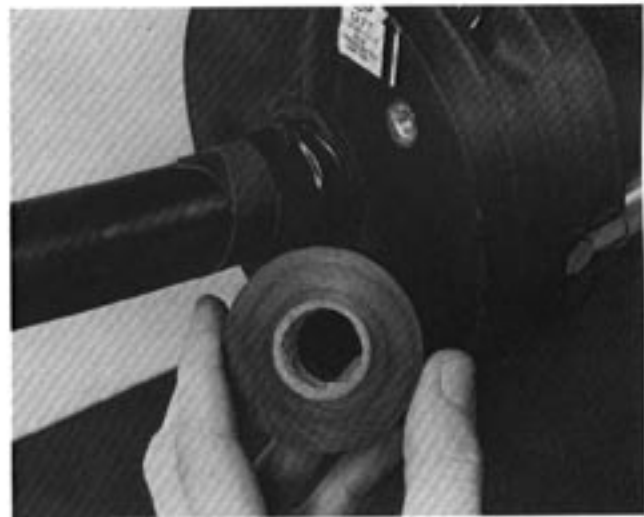

FIGURE 26 - APPLICATION OF VINYL TAPE TO CABLE
8.09 Apply two wraps of vinyl tape over exposed LOCK-TAPE Sealant on cables (Figure 26).